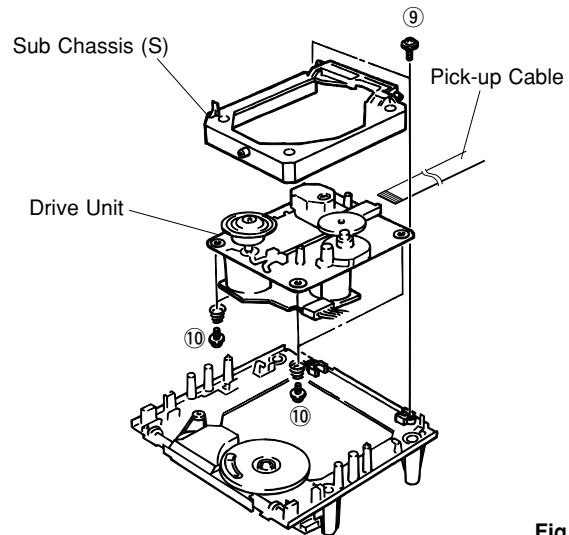

Fig. 8
- a. Remove 2 screws (⑨) in Fig. 8.
- b. Remove a pick-up cable in Fig. 8.
- c. Remove 4 screws (⑩) and then remove the Drive Unit in Fig. 8.